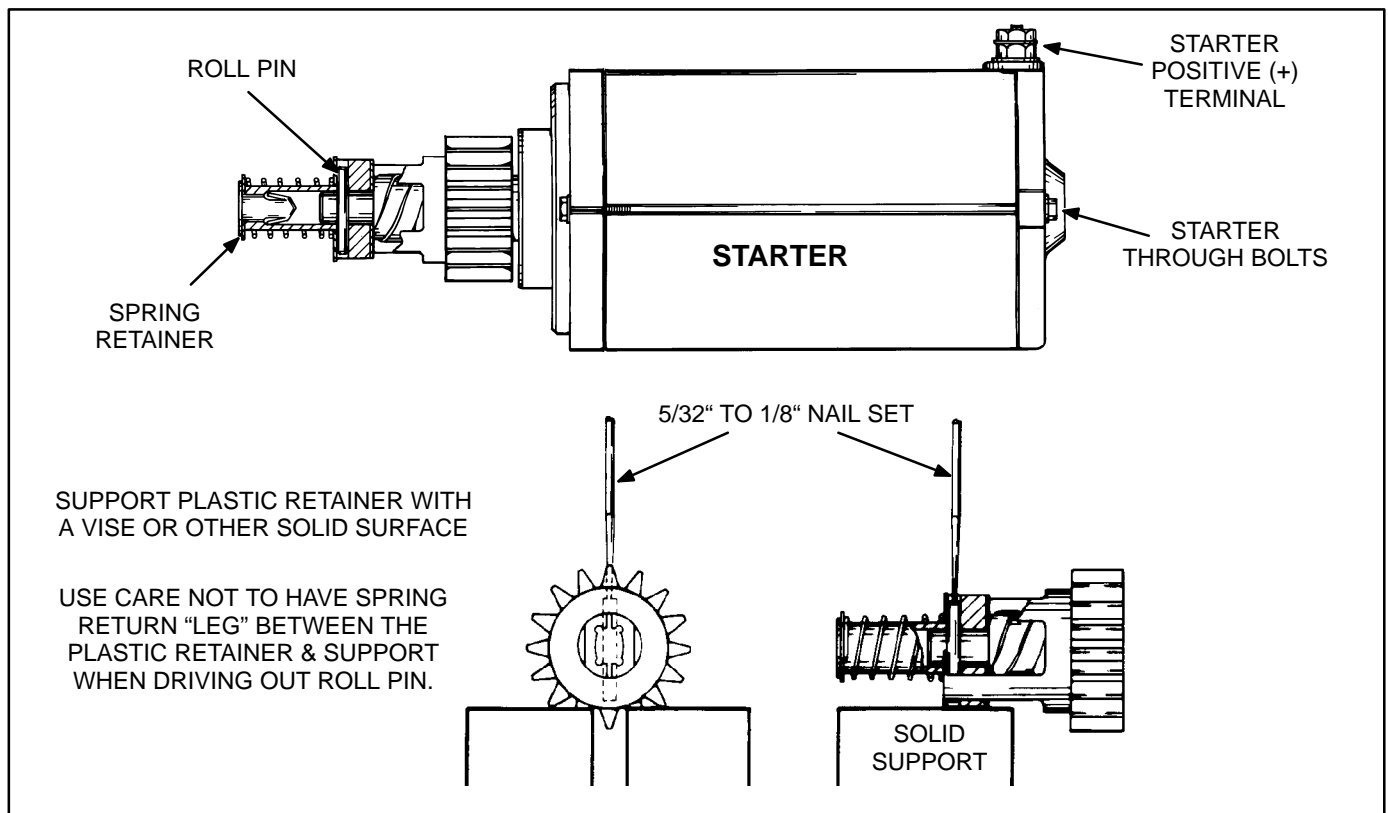

FIGURE 8-13. DRIVING ROLL PIN OUT OF STARTER ASSEMBLY
4. Use a 1/8 inch nail set to remove the roll pin in the armature shaft. Remove the return spring, gear and clutch assembly (Figure 8-13).